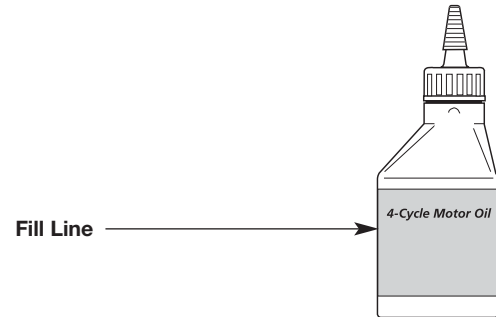

Fig. 24
**NOTE:** Use the empty oil bottle saved from the initial use to measure the correct amount of oil. Fill the oil bottle to the 2.03 fl. oz (60 ml) fill line indicated on the back of the bottle (Fig. 24).